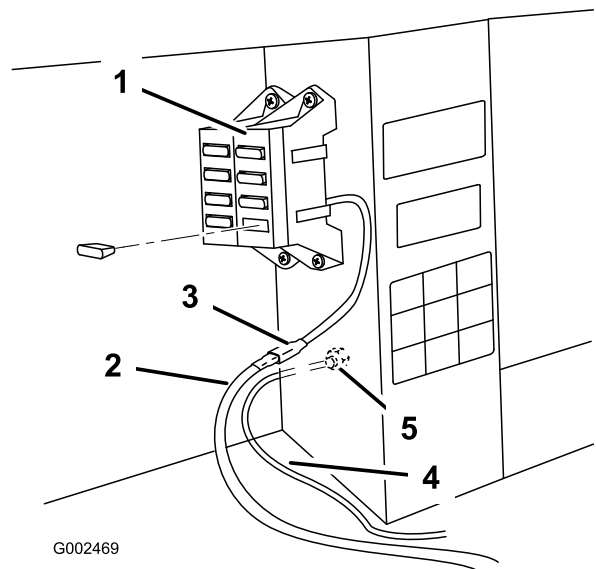

Figure 21
2. Connect the ring on the black wire to the ground bolt (Figure 21).